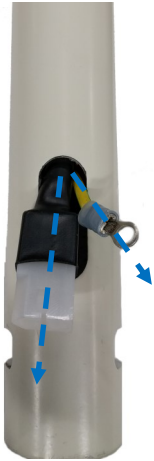

Figure 6: Bottom of the post.
- Using needle nose pliers, pull the connector and approximately one inch of cable through the oval hole at the bottom of the post. Refer to Figure 6.